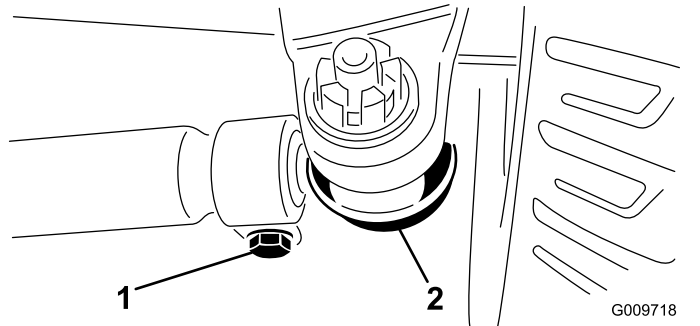

Figure 92
2. To adjust, remove the cotter pin and nut from either tie rod ball joint (Figure 92). Remove tie rod ball joint from axle case support.
3. Loosen the clamps at both ends of the tie rods (Figure 92).
4. Rotate the detached ball joint inward or outward one (1) complete revolution. Tighten clamp at loose end of tie rod.
5. Rotate the entire tie rod assembly the same direction (inward or outward) one (1) complete revolution. Tighten clamp at connected end of tie rod.